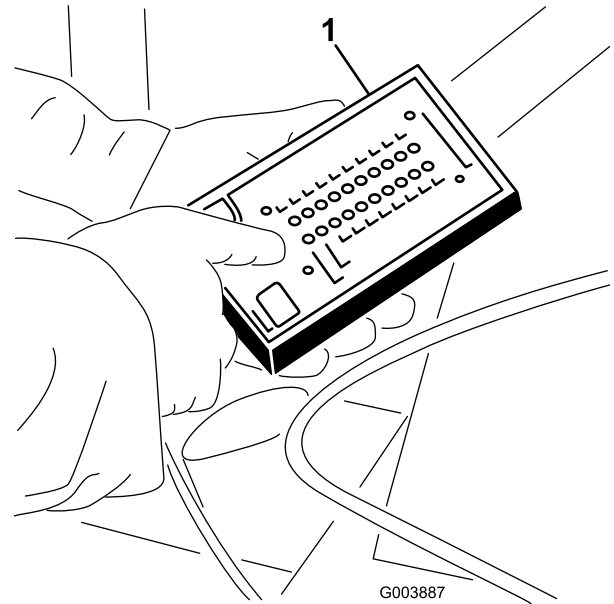

Figure 39
5. Connect the Diagnostic ACE display connector to the harness connector (Figure 39).